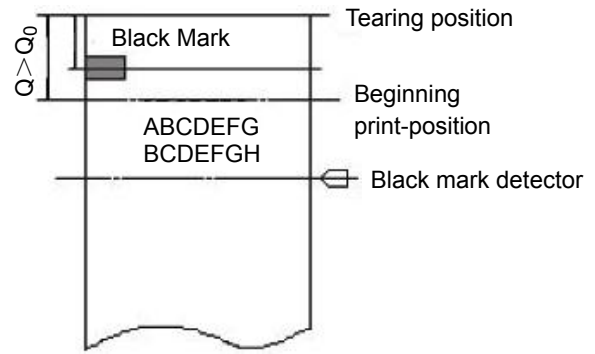

Figure 5
- When the tearing position offset is not zero, or the distance Q between the beginning print-position and the tearing position is greater than the inherent mechanical value Q_0 of the printer (shown as Figure 5), the calculation of the beginning print-position offset of “GS (F” command is shown as follows: